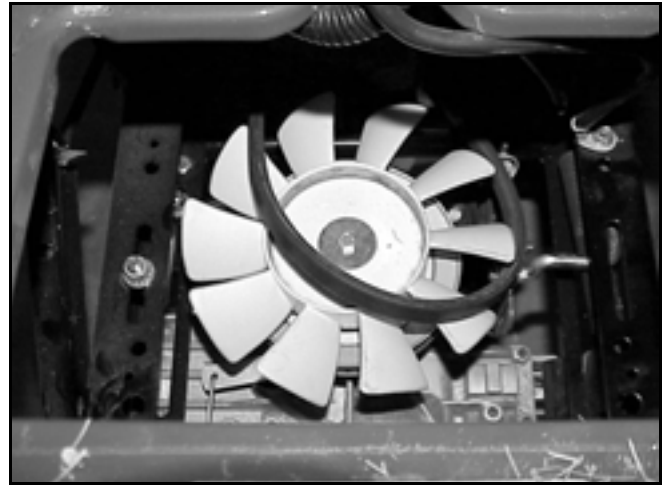

Figure 125
6. Move the slack of the traction drive belt to the rear of the tractor and slip the belt off the transaxle drive pulley. The fan is flexible enough to allow you to remove the belt (Figure 125).